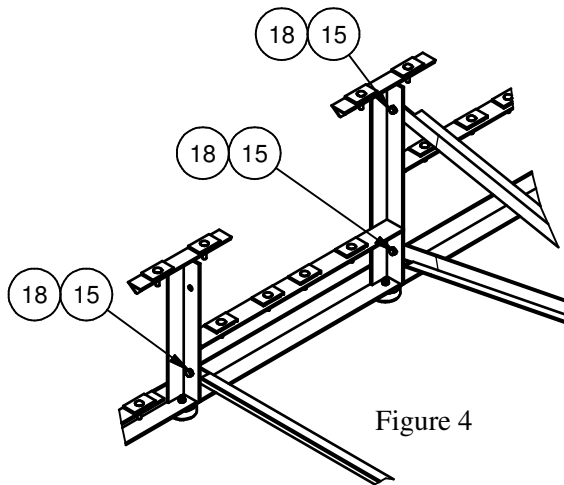

Figure 4
3. Lay out the Frame weldments approximately 4'-6" apart. Install the brace sub-assemblies from step 1 using the 3/8" x 1" hex bolts and 3/8" whizlock nuts as shown in Figure 4. Install the straight brace using the 3/8" x 1" hex bolt and 3/8" whizlock nut as shown in Figure 4.
7. Install the seat planks using the mounting clips, 5/16" x 1" carriage bolts, and 5/16" whizlock as shown in figure 4. Note: these mounting clips, bolts, and nuts are required at every frame position.